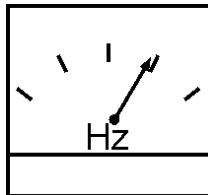

Figure 44. Frequency Meter
6. The generator's frequency meter (Figure 44) should be displaying the 50 cycle output frequency in **HERTZ**.